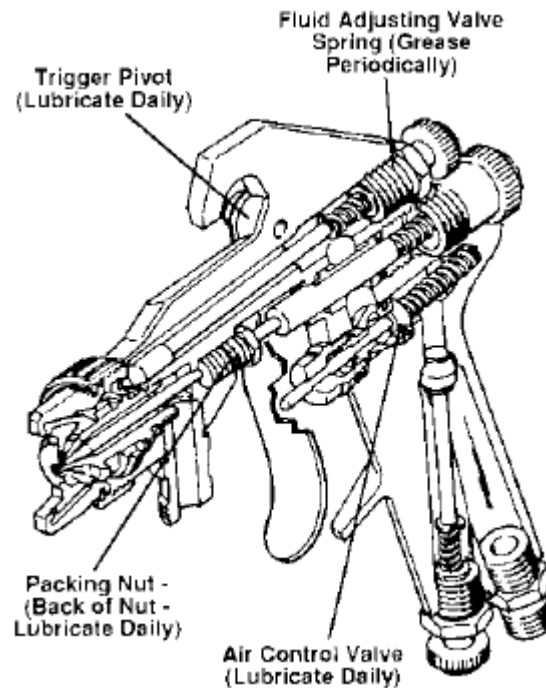

Figure 35 Maintenance Diagram
1. With a lightweight oil, lubricate the air spray gun daily at the points shown in Figure 35. Periodically lubricate the fluid needle spring with a lightweight grease or petroleum jelly.